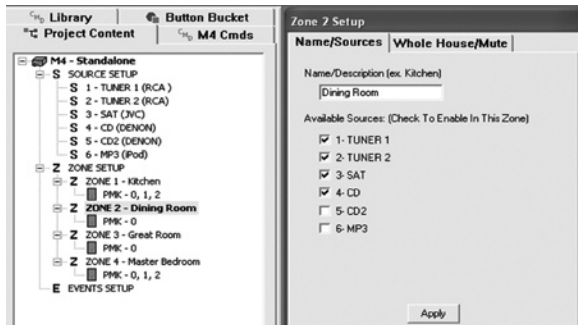

Figure 5 Unchecked Sources for Use as Functions
- If you are working from a default project and do not want to have a particular source play in a given zone, or you want to change them from Source to Function keys, uncheck them here. Refer to **Figure 5**.